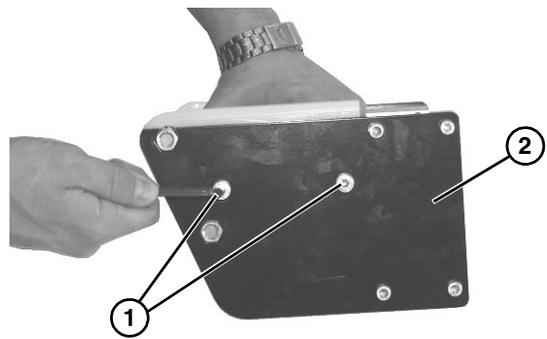

Figure 50
4. Remove two low head cap screws (**Figure 50, item 1**) from plate (**Figure 50, item 2**). Repeat procedure on opposite side.